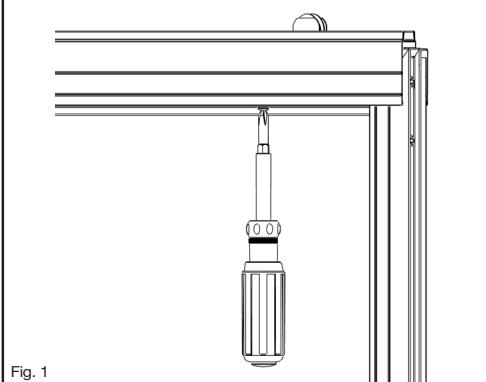

Fig. 1
**Fully retract top and bottom expanders** by turning the expander adjustment screws (2 on top, 2 on bottom) clockwise until they stop (**Fig. 1**).